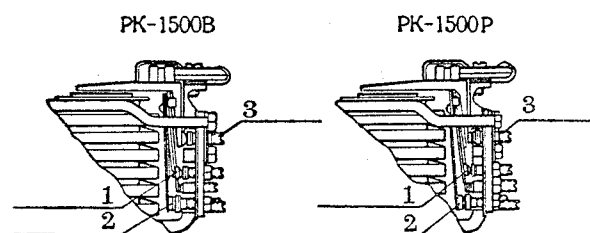

Fig. 3-17 Position Diagram of Contact Points of Low-Limit Relay
C. Check the closing sequence of the contact points of low-limit relay. The sequence should be (1) parallel contact point, (2) arc-extinguishing contact point and (3) the main contact point (See Fig. 3-17).
(2) Adjust the voltage regulator.